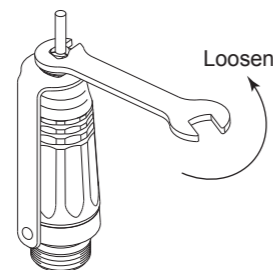

Fig. 6
- * The collet might be fastened and the cutting tool could not be removed, if the cutting tool with large diameter is used under a high torque. Align the nose's slit and Attachment's wrench position, and put a L shaped wrench to fix the spindle. Open the ring, remove the dust proof cap to the tip of the collet and turn the collet counterclockwise with a wrench for replacing collets to remove it (Fig. 6)